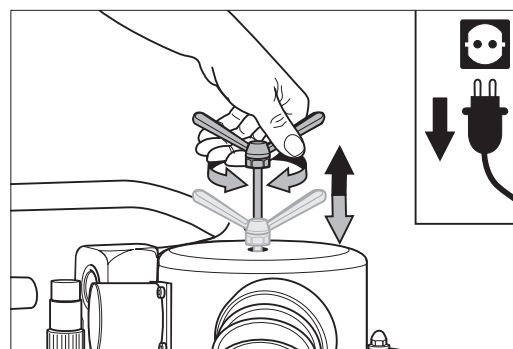

Fig. 22 Move the cleaning slide up and down while continuously turning the wing nut.
- 2 Grasp and turn the wing nut on top of the filter unit and gently pull it upwards, moving the cleaning slide integrated in the filter unit (Fig. 22).